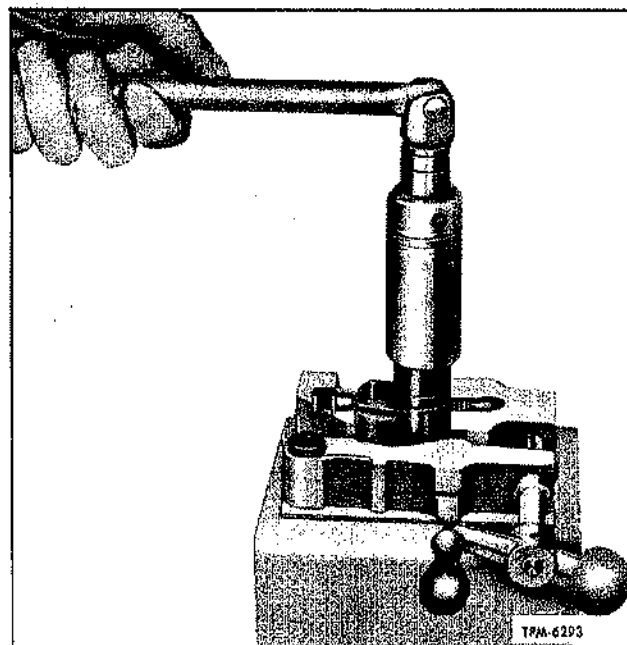

Figure 19—Removing Injector Nut
4. Reverse the injector in the fixture and, using socket wrench, loosen nut from injector body (fig. 19).